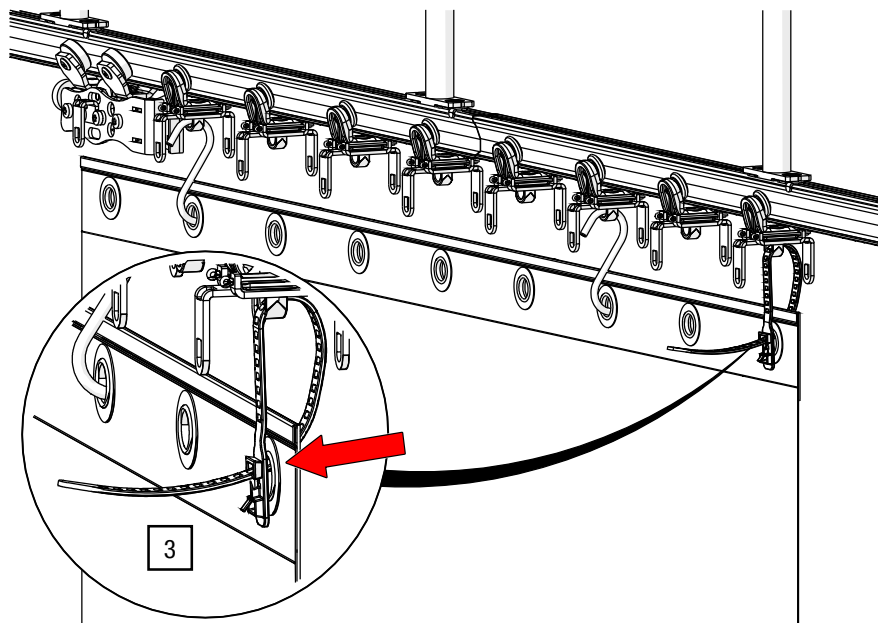

Fig. 105: Inner layers – Connect with soft ties
3. Feed the inner layers onto the soft tie and pull the tab through the first hole in the head of the soft tie (see Fig. 105).